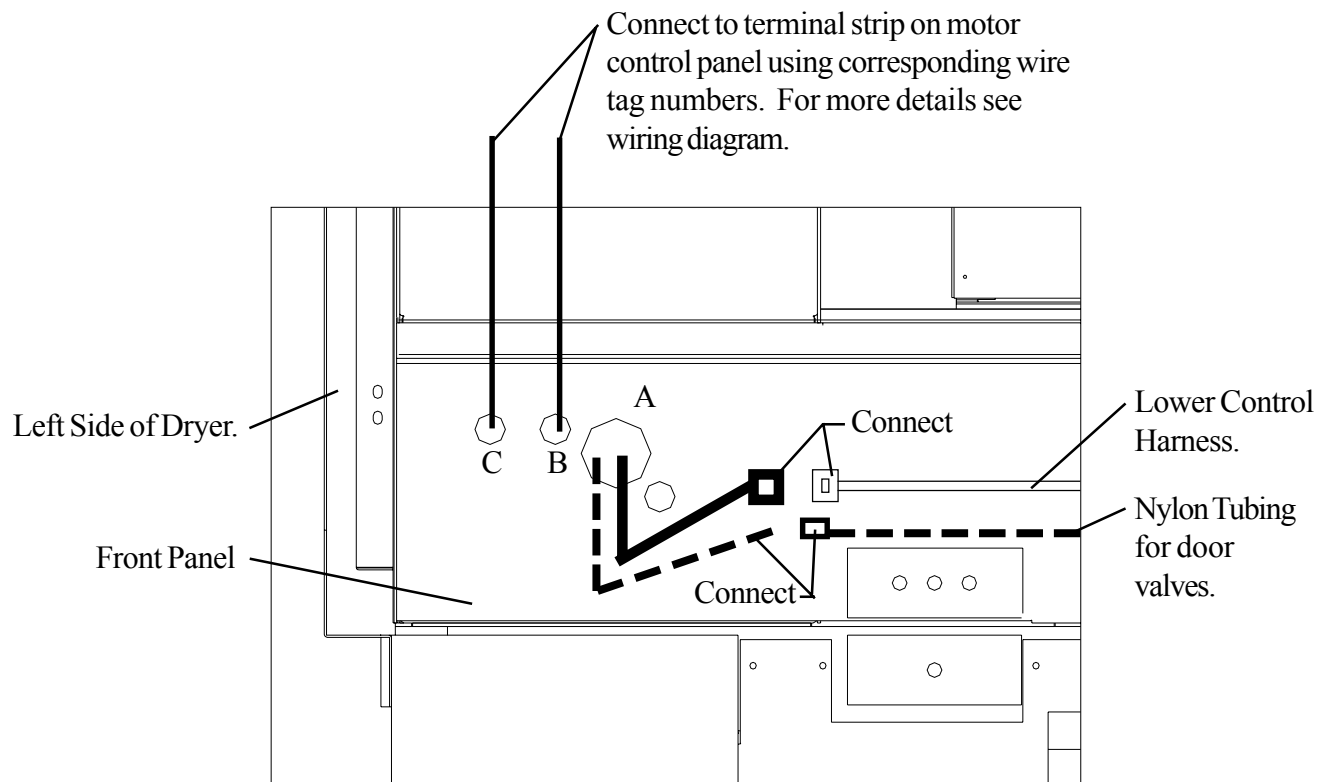

Figure-8B
STEP 12: Connect Lower Section 24V wires with plug (labeled F1-F3) into Lower Control Harness which runs across the front of the dryer (See Figure-8B). Connect Fan Motor wires into terminal strip in right control box on front of dryer using corresponding numbers on wire tags (See Figure-8B). Connect Run 24V High Power wires (labeled L1-L3) into terminal strip in right control box on front of dryer using corresponding numbers on wire tags (See Figure-8B).
STEP 12A: On dryers with automatic doors you will need to take the 1/4" nylon tube which you ran through hole "A" in the front panel and connect it to the 1/4" nylon tube that runs across the front of the dryer, using the straight fitting on it (See Figure-8B).